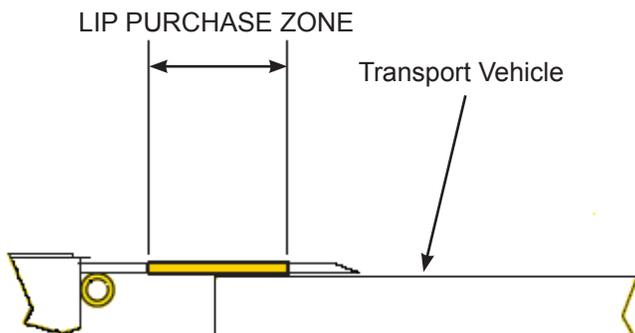

Figure 16
- e. Press the EXTEND and/or RETRACT buttons to position the lip into the Lip Purchase Zone. Lip is properly positioned when the Positioning Guides on the lip are BOTH over the rear edge of the transport vehicle bed. See Figure 16.